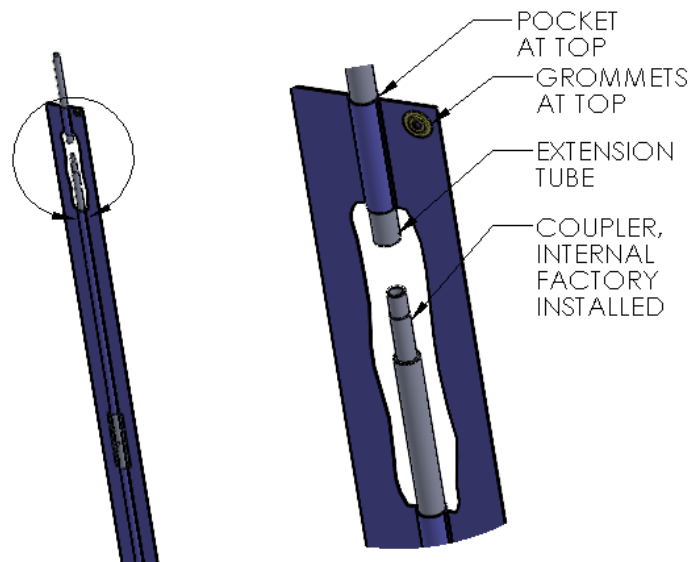

Figure 2 Install Extension Tube
2. Locate the fiberglass Extension Tube(s) and Locate the opening at the top (Grommeted edge) of the Cam Lock edge/leading edge (Figure 2 Install Extension Tube)
3. Insert the Tube into the centermost pocket/ folds (between mesh material for Bug Blocking Curtain) until it engages the splice/coupler below. To fully seat the stiffener extension tube you may have to tap the end. When fully seated, the tube will be about 3” below the top edge of the Curtain. (Figure 2 Install Extension Tube)